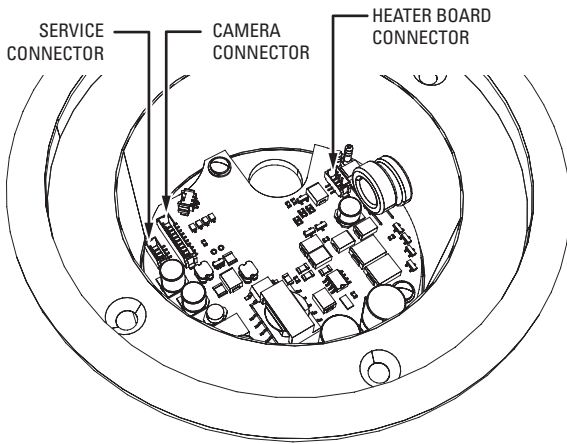

Figure 6. Back Box Connectors
2. Unplug the camera (10-pin), heater board (four-pin), and service (three-pin) connectors from the back box (refer to Figure 6).
1. Plug the camera (10-pin), heater board (four-pin), and service (three-pin) connectors into the back box (refer to Figure 6 on page 11).